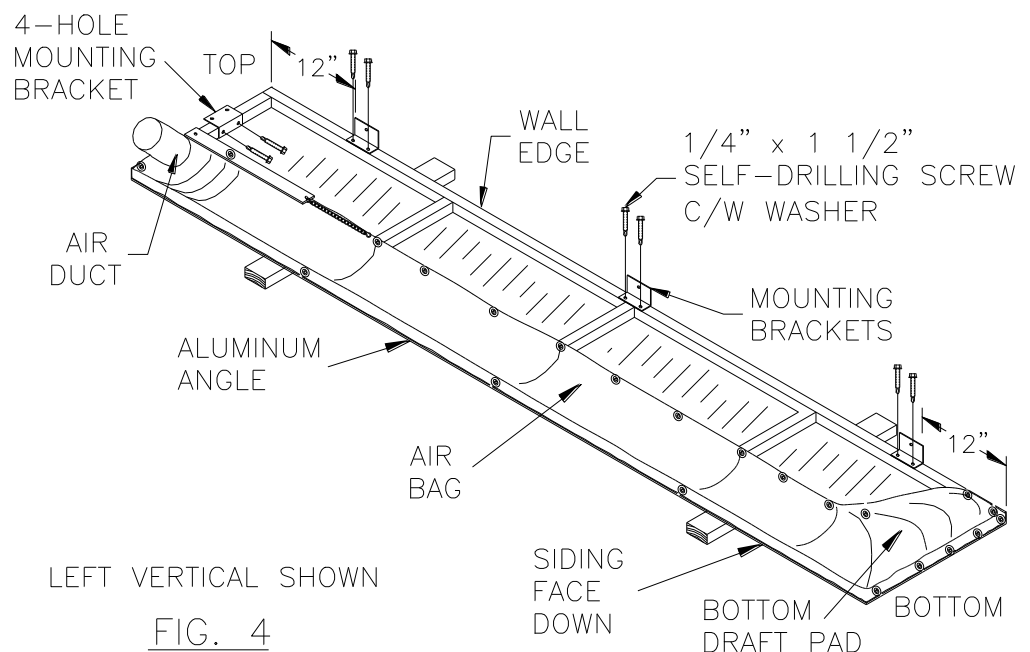

FIG. 4
- * Air Duct is at the **top front** of each Vertical Frame (Figure 4).
b. **Position Mounting Brackets** on Vertical Frame (Figure 4).
d. **Position 4-hole Angle Bracket** on Vertical Frame (Figure 4).